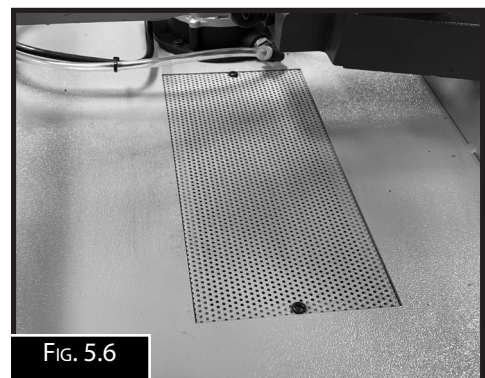

FIG. 5.6
3. Once the coolant is empty remove the two screws that secure the screen on the top of the reservoir, and remove the screen. (Fig.5.6)